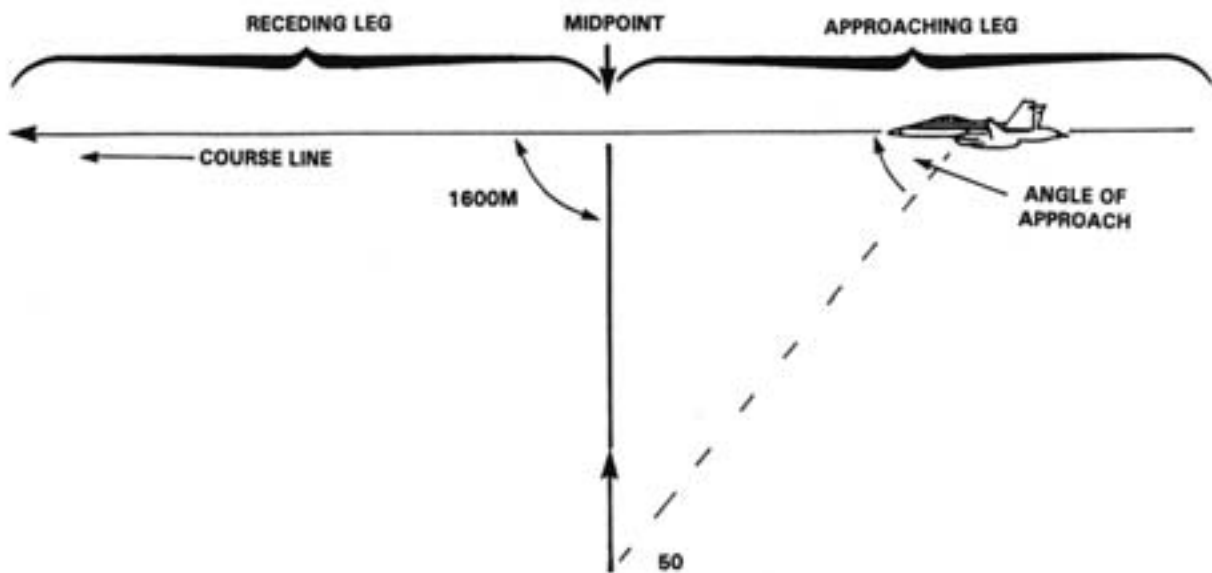
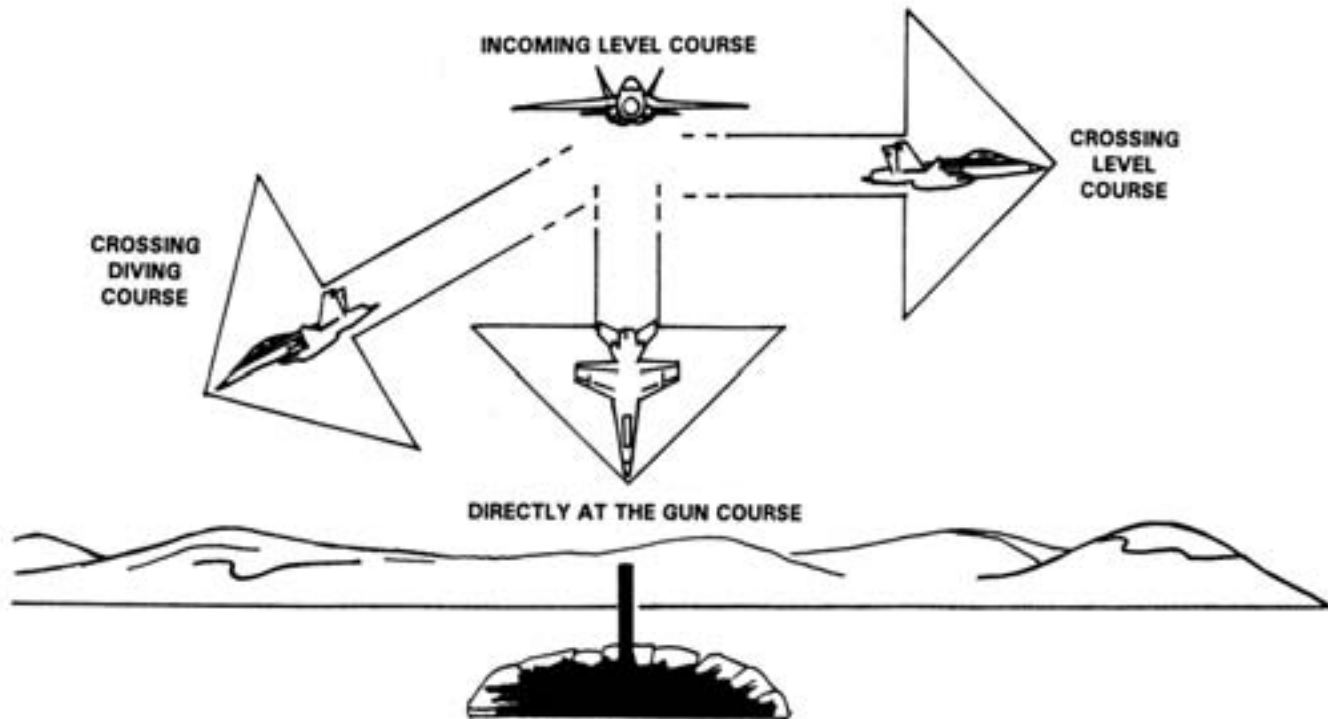

Figure 6-55. Diagram Showing Midpoint, Approaching Leg, and Receding Leg.
Figure 6-56. Target Course Names.
a. **General.** See figure 6-55.
- (1) **Course line.** The line along the course in which the target is flying.
- (2) **Midpoint.** The point along the course of any target at which the target is nearest the gun position.
- (3) **Approaching leg.** That part of the course in which the target is flying toward midpoint.
- (4) **Receding leg.** That part of the course in which the target is flying away from midpoint.
- (5) **Angle of approach.** The angle formed by the gun, present position of the target, and the course line. The angle of approach at midpoint is always 1,600 mils.
b. **Target Course Names.** Aircraft may fly any of the following types of courses (see figure 6-56):